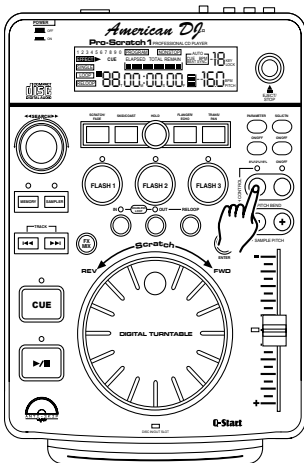

Figure 41
This function will increase or decrease the tracks playback speed or "PITCH," this is not a momentary change as in "PITCH BENDING" on page 19. The maximum pitch bend percentage allowed is +/-16%. The **PITCH SLIDER (17)** is used to decrease or increase the playback pitch. If the slider is moved up (towards the top of the unit) the pitch will decrease, if the slider is moved down (towards the bottom of the unit) the pitch will increase. The **PITCH SLIDER (17)** adjustment can be changed to range from +/-8%, +/-12%, or +/-16% (See changing "PITCH SLIDER PERCENTAGE RANGE" figure 41 below). The pitch adjustments will effect playback, reverse playback, and your loops. The pitch adjustments will not effect your samples.